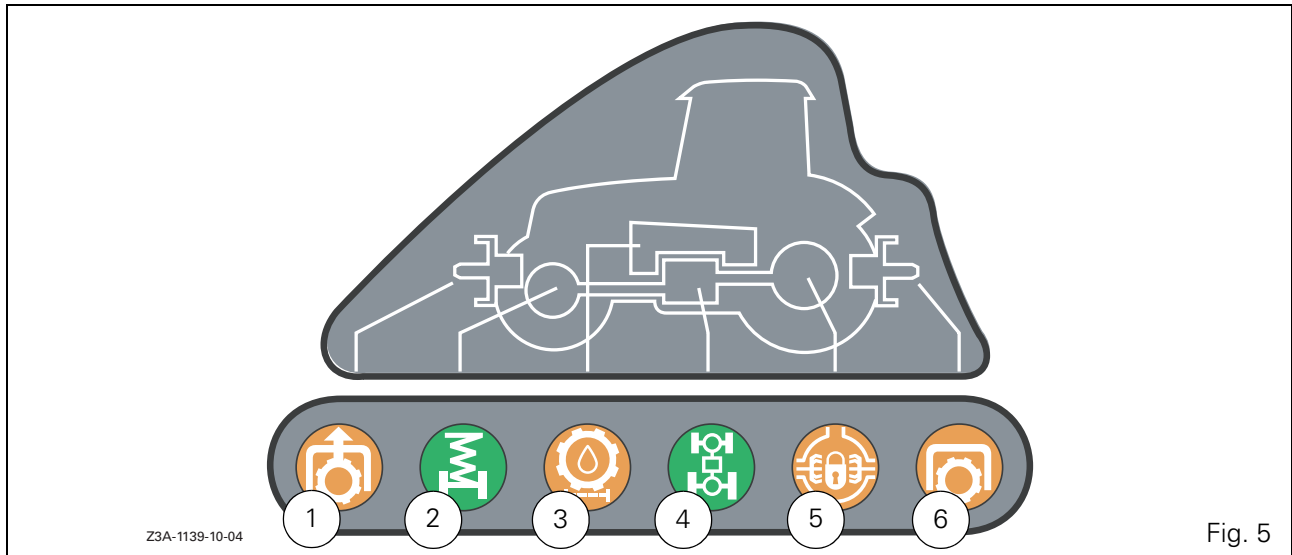

Fig. 5
3.2.1 Control indicator lights for functions in use (Fig. 5)	3.8
19. **Control indicator lights for functions in use (see details in Fig. 5).**
3.2.1 - Control indicator lights for functions in use (Fig. 5)